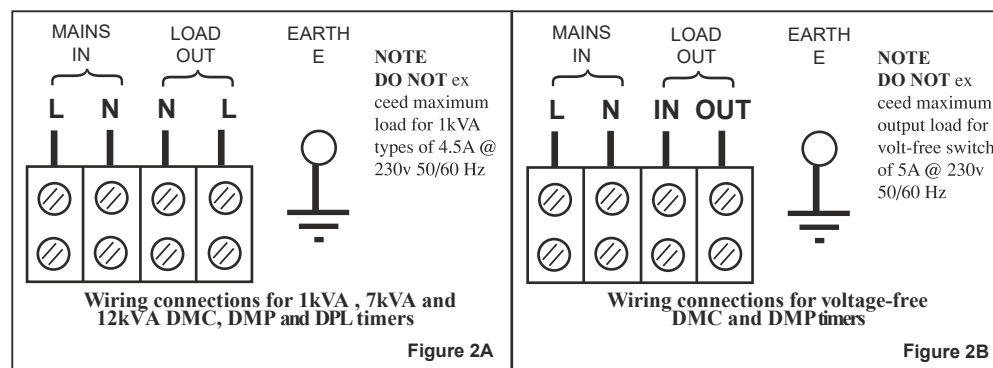

Figure 2 Input wiring connections
- v. Using a fused double pole switch for the mains input, wire th shown in Figure 2. **IMPORTANT**. With 24V, VF (voltage-free) and 1kVA models use cable of cross sectional area not less than 1.0 mm² and fuse at 5A. With 7kVA rated models use cable of not less than 6.0 mm² and fuse as appropriate up to a maximum of 30A. For 12kVA rated models use cable of not less than 10 mm². The use of 20 mm conduit is recommended (use male thread adaptor with lock-ring e.g. Egatube type EMA/2). Alternatively fit a 20 mm nylon compression cable gland to provide strain relief.